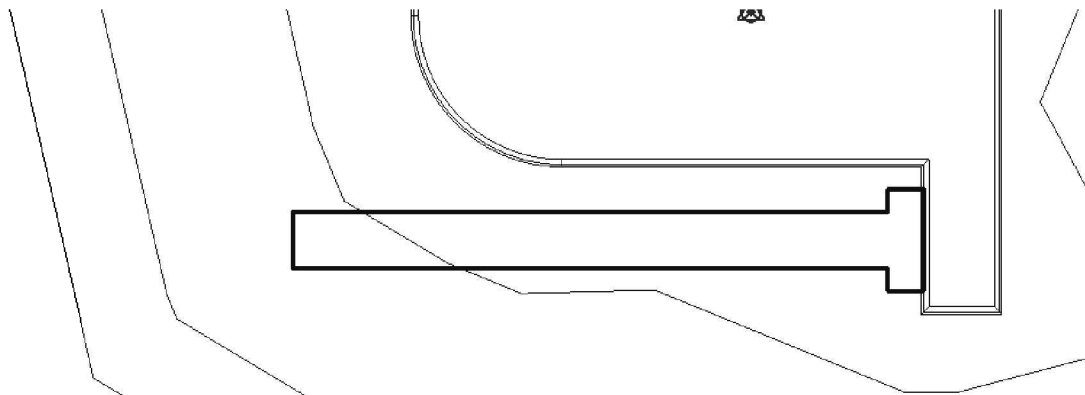

FIGURE 15-1.9 Partial site plan – closed sketch lines for subregion
14. Select the **Massing & Site → Modify Site → Subregion** tool and sketch the lines for the sidewalk (Figure 15-1.9).